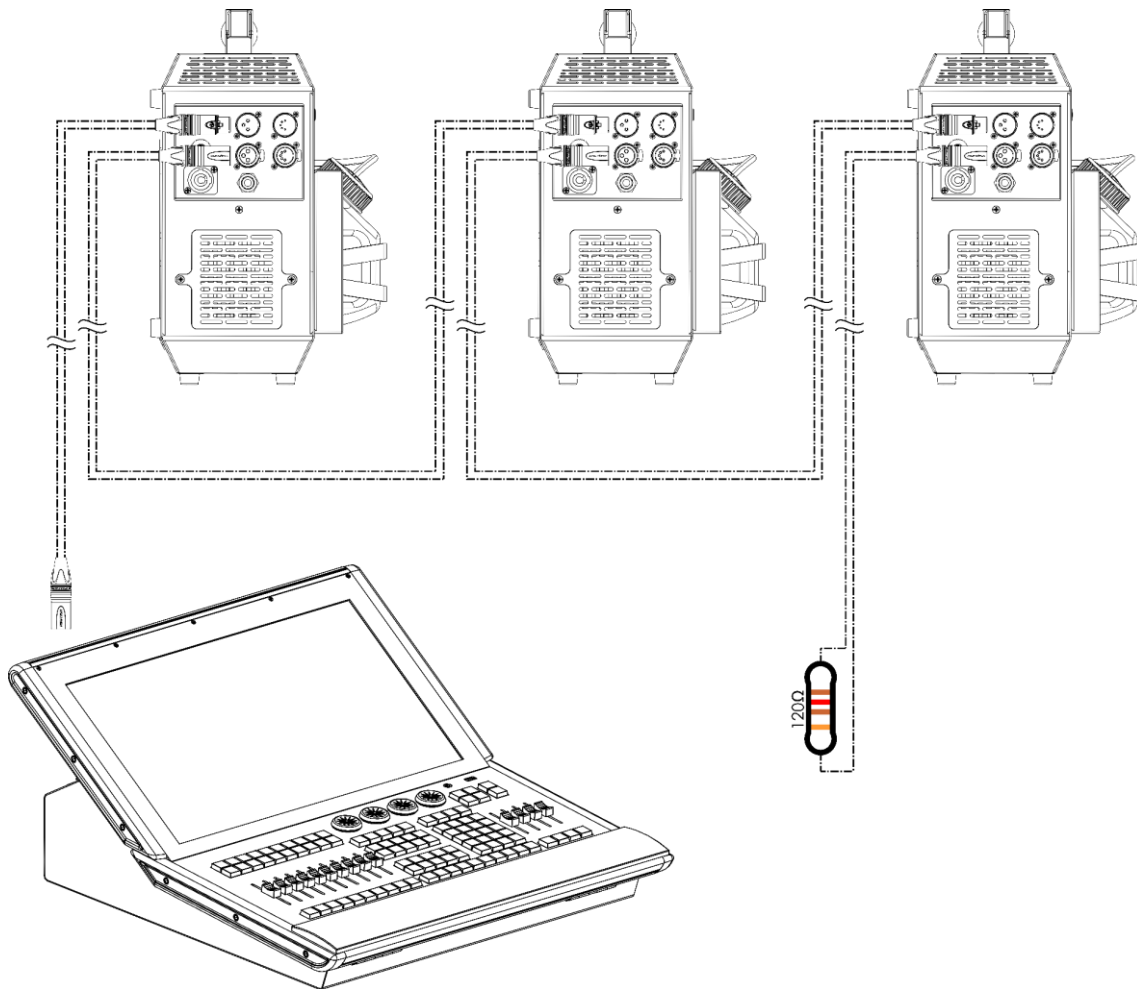

Fig. 27
- 03) Repeat step 2 to connect all devices in a daisy-chain as shown in Fig. 27.